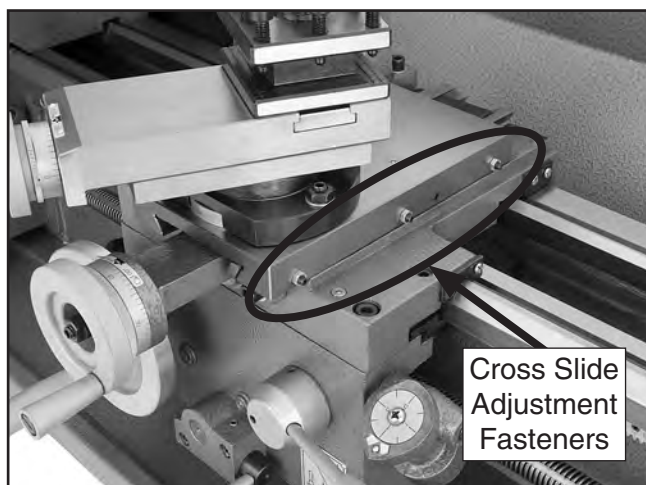

Figure 86. Cross slide gib adjustment hex nuts and set screws.
2. Loosen the three hex nuts on the side of the slide (see **Figures 86–87**).